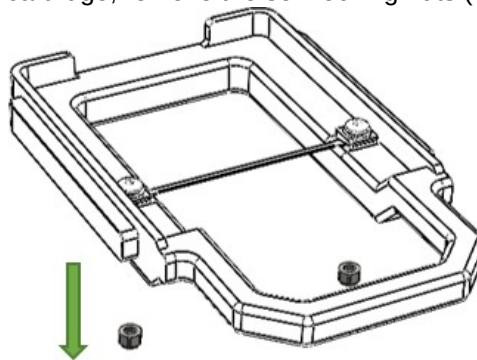

Figure 5. Blade disassembly method. View 2
2. On the opposite side of the cartridge, remove the self-locking nuts (Figure 5).